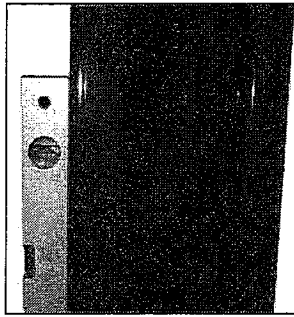

Fig. 11
6. Using a level, check column for side-to-side plumb and front-to-back plumb (Fig.11). If needed, use horseshoe shims provided by placing shims underneath the base plate and around the anchor bolt. This will prevent bending the column bottom plate (Shim thickness should not exceed 1/2"). Tighten the anchor bolts to 150 ft-lbs. of torque.